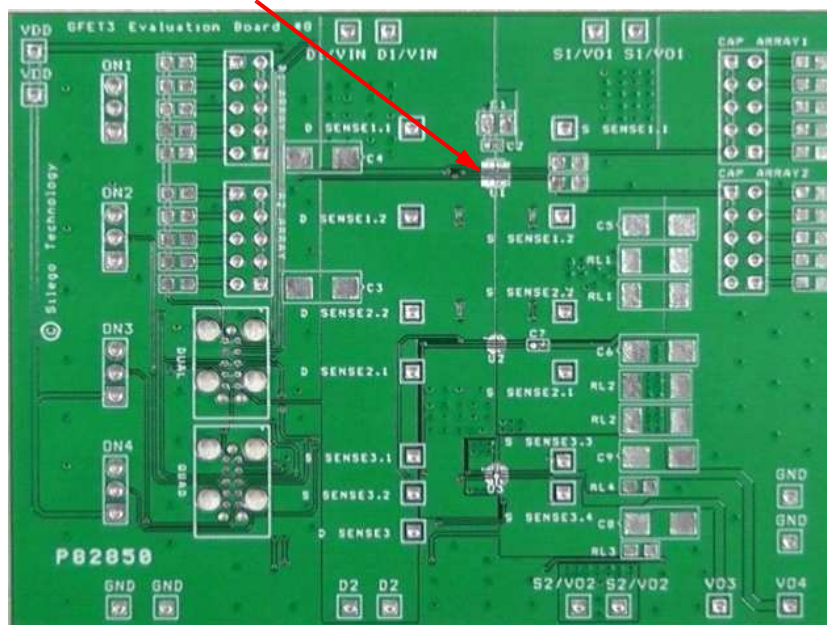

Figure 1. SLG59M1527V Evaluation Board
2. Since the D1, D2, S1 and S2 pins dissipate most of the heat generated during high-load current operation, it is highly recommended to make power traces as short, direct, and wide as possible. A good practice is to make power traces with an absolute minimum widths of 15 mils (0.381 mm) per Ampere. A representative layout, shown in Figure 1, illustrates proper techniques for heat to transfer as efficiently as possible out of the device;
A GreenFET Evaluation Board for SLG59M1527V is designed according to the statements above and is illustrated on Figure 1. Please note that evaluation board has D\_Sense and S\_Sense pads. They cannot carry high currents and dedicated only for RDSON evaluation.